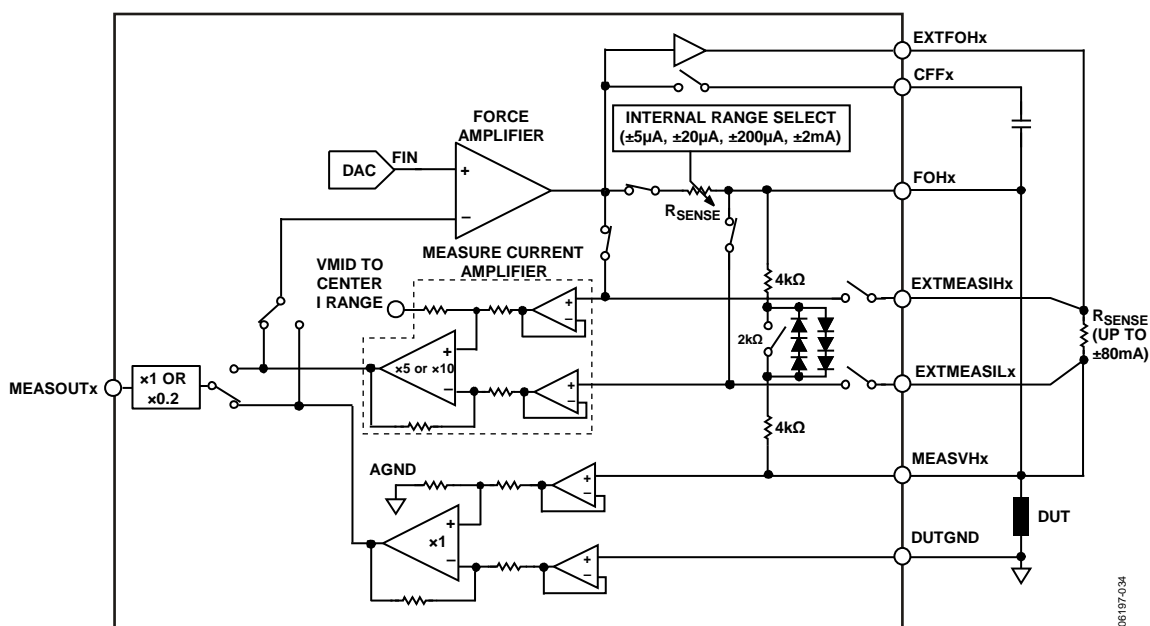

Figure 52. Forcing Current, Measuring Voltage
In force current (FI) mode, the voltage at the FIN DAC is converted to a current and is applied to the DUT. The feedback path is the measure current amplifier, feeding back the voltage measured across the sense resistor. MEASOUT_x reflects the voltage measured across the DUT (see Figure 52).